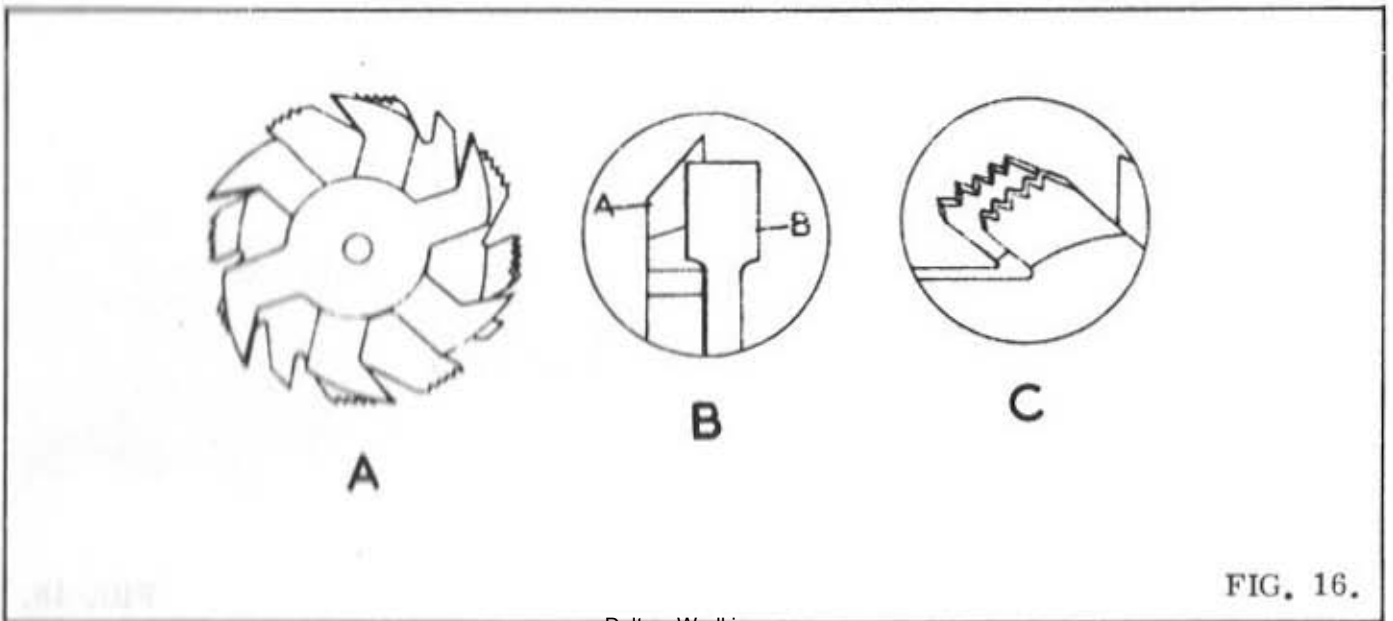

FIG. 16.
A dado head is made up of two outside saws and 5 inner cutters. Various combinations of saw and cutters are used to cut grooves from 3mm to 25mm ( $\frac{1}{8}$ " to 1") wide. Inner cutters are heavily swaged and must be arranged so that the heavy portion falls in the gullets of the outside saw as shown on Fig.16(A), Fig.16(C) shows how the saws and cutters overlap "A" being the saw and "B" being the inside cutter. A 6mm ( $\frac{1}{4}$ ") groove is cut by using the two outside saws fitting the ground teeth directly opposite as shown in Fig.16(C) in order to allow clearance for the slight set of the saw teeth.